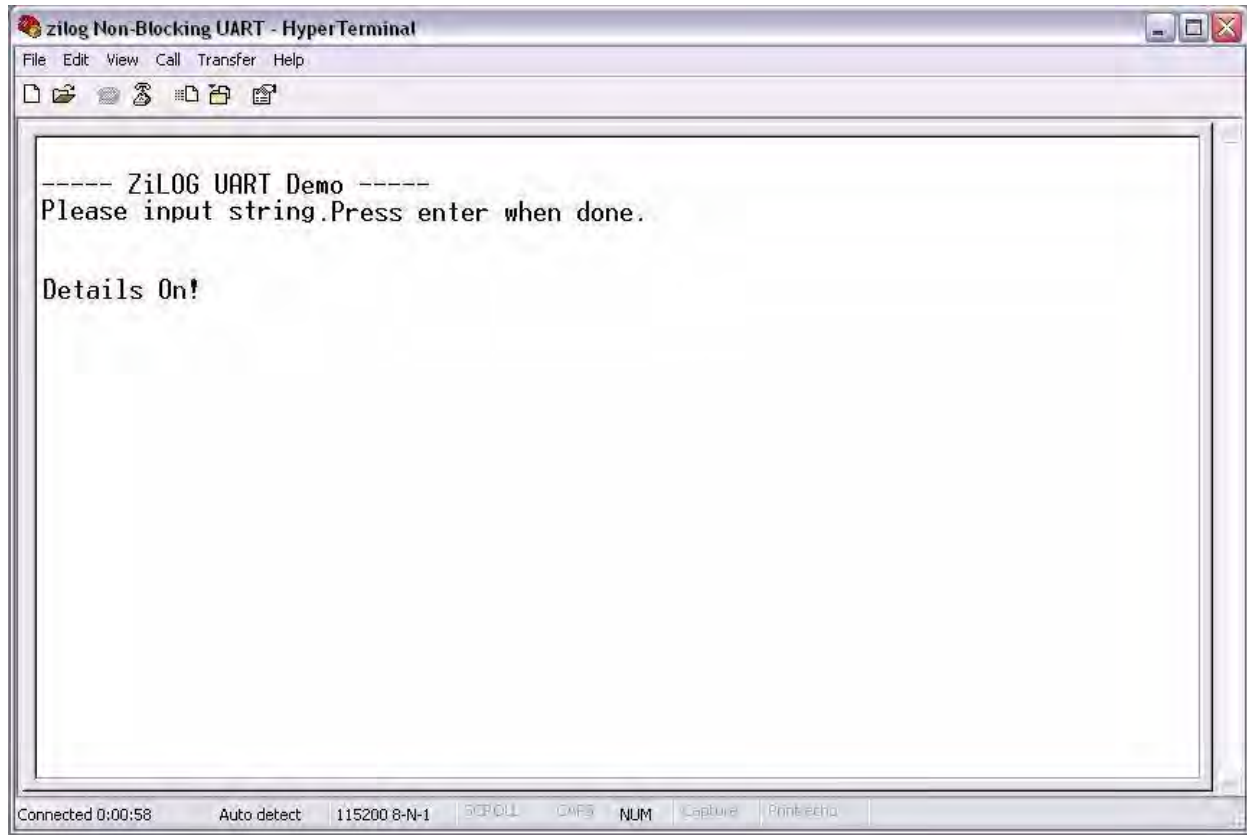

Figure 12. The Details On Notification
12. Press the Tab key to enable the command set, then enter the `DETAILON` command and press Enter. The HyperTerminal window will display `Details On!`, as shown in Figure 12.